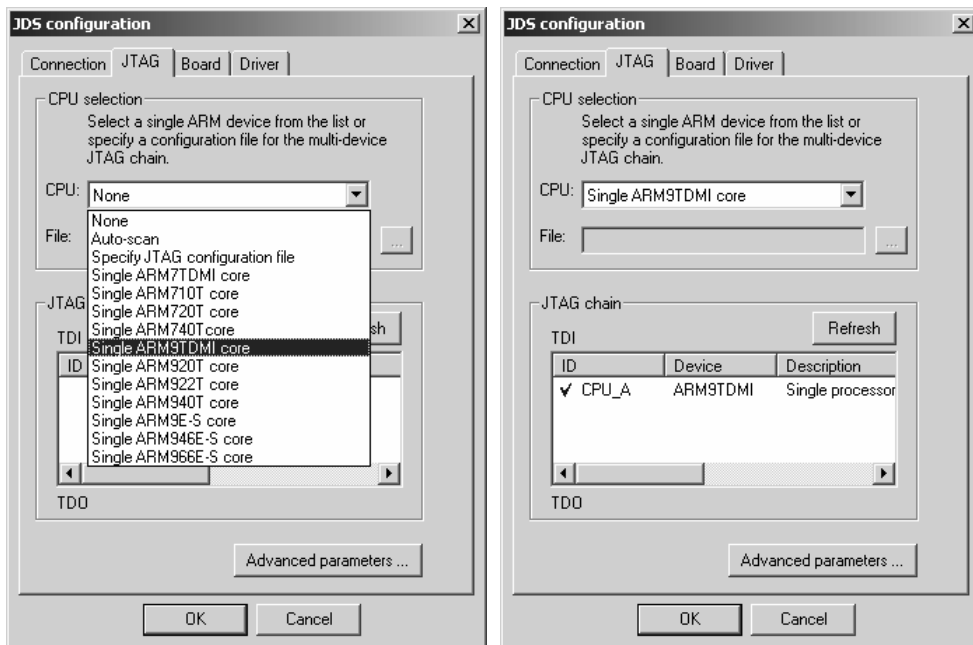

FIGURE 25 Selecting a single target CPU.
- If your JTAG chain contains a single ARM device, select the processor from the CPU list. The name (ID) and device type, along with a short description, are displayed in the JTAG Chain group box (Figure 25):